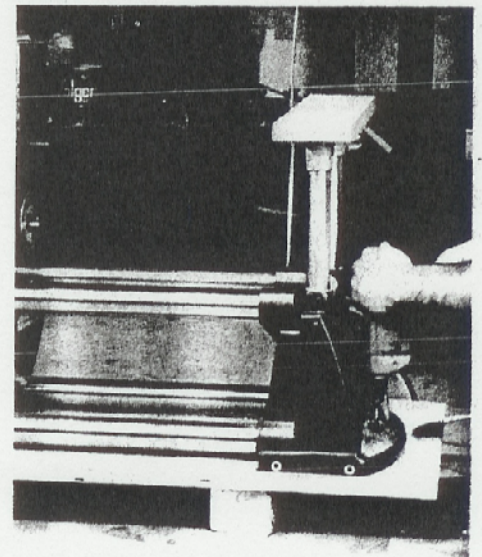

Figure 2. Place the Mark V on a sheet of plywood, then drill two 1/4" holes to line up with the holes in the power mount, as shown.
2. Place the Mark V on a pallet. With your helper, turn the Mark V right side up and place it on a piece of 1/4" plywood, 19" x 69". Prop this plywood up on some blocks or wood scraps. With a hand drill, drill two 1/4" holes through the plywood, so that the holes in the plywood will line up with the holes in the power mount. (See Figure 2.) Bolt the